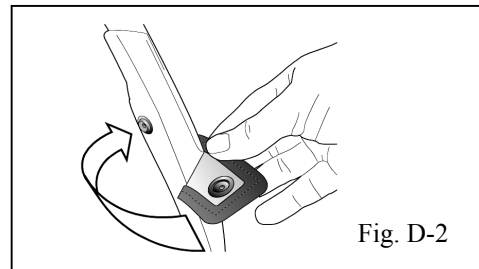

Fig. D-2
- ➡ 2. Attach snap at top of wheel well to previously installed hardware (Fig. D-2.) Repeat on other side of the vehicle.